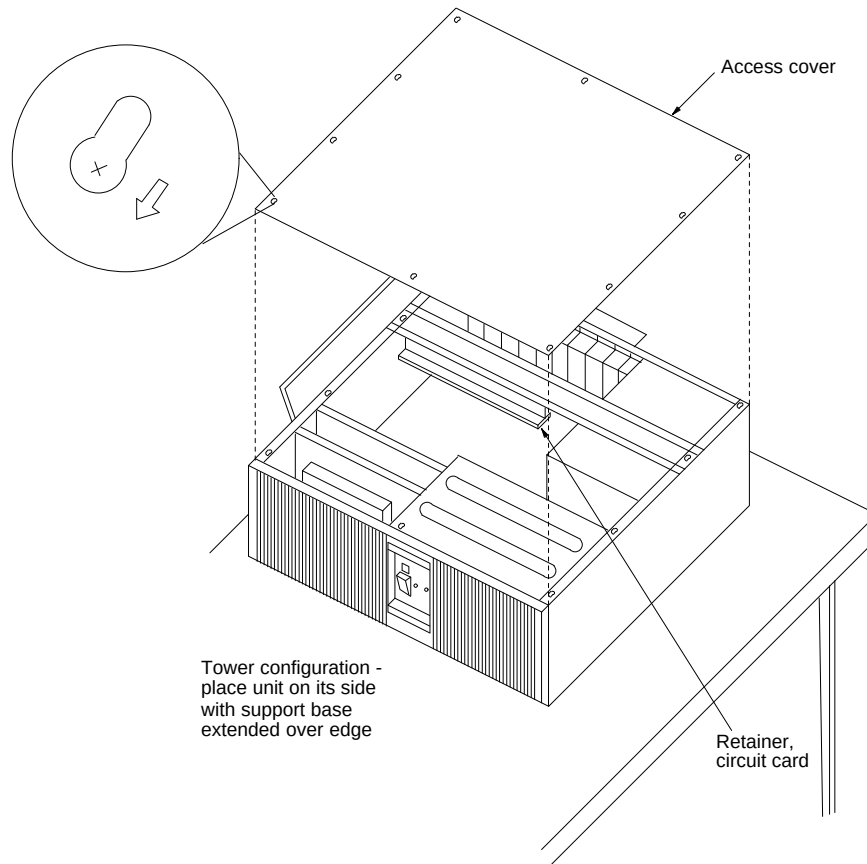
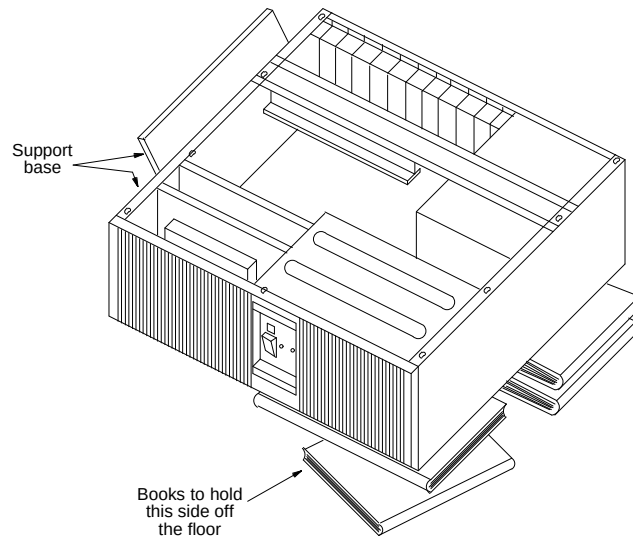
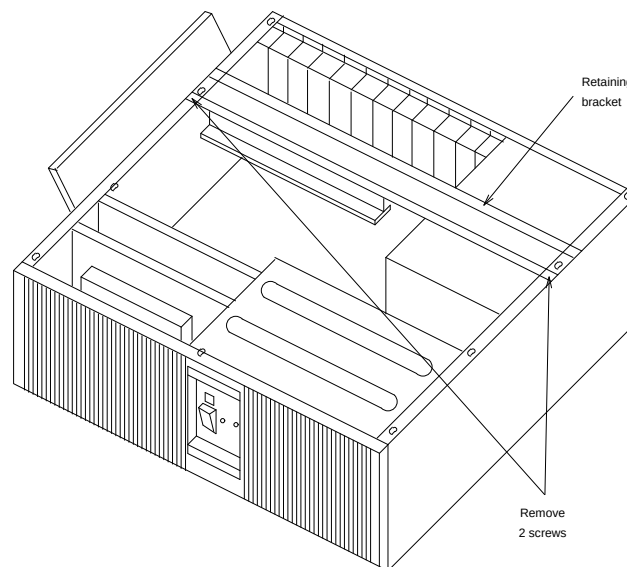

Figure C-5. Removing the Access Cover
Figure C-6. Supporting the MAP/40
Figure C-7. Circuit Card Retaining Bracket
Use the following procedures along with Figure C-5, Figure C-6, and Figure C-7 to remove the circuit card access panel and retaining bracket.
- a. If at all possible, disconnect the incoming lines/trunks, and place the MAP/40 on its side on a work table with the support base over the table edge as shown in Figure C-5.
- b. If you cannot disconnect incoming lines/trunks to the MAP/40, place the MAP/40 on its side and rest the end opposite the support base on large telephone books or similar objects as shown in Figure C-6.
7. Some repairs require that the circuit card retaining bracket be removed. To do so, locate and remove two Phillips head screws that fasten the bracket to the chassis, and remove. This bracket is illustrated in Figure C-7.